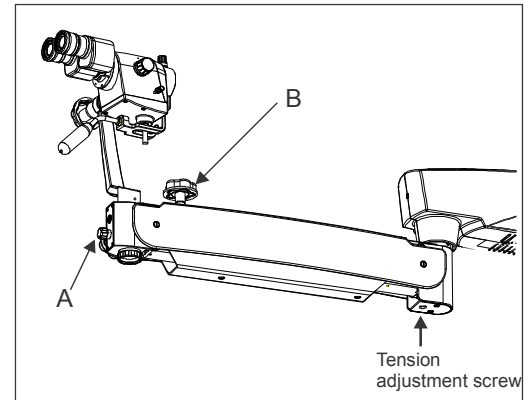

Fig. 12
Refer Fig. 12 to see the exact location of tension adjusting screw.
- 3 Lock the Up & Down movement of suspension arm using locking knob(B) in fig. 12 after coarse focusing of the attendance area.
- 5 The illumination is controlled through the control knob (A), fig. 12. Rotate it clockwise or anti clock wise to achieve desired illumination level Functional setup keep it as minimum.